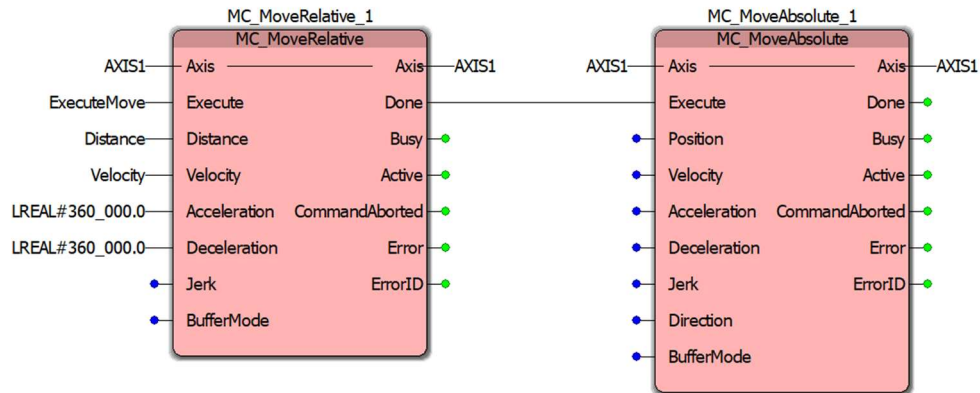

Figure 22: MC_MoveRelative and MC_MoveAbsolute Linked in Series
- Now lets do 2 moves in sequence, add an MC_MoveAbsolute block and position it such that it connects to the MC_MoveRelative block as shown in Figure 22.